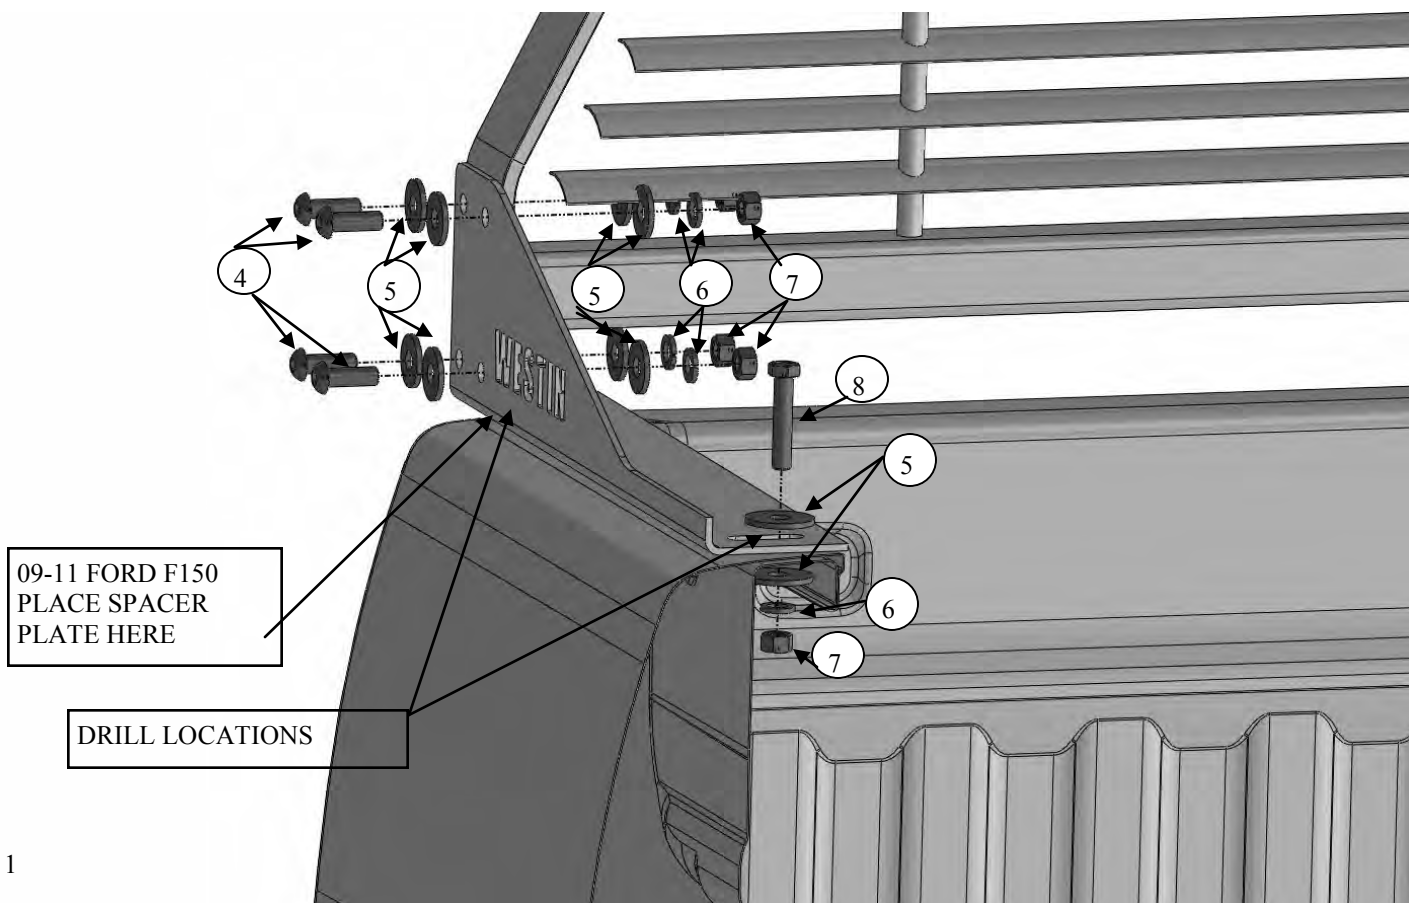

FIG 1
2. Assemble the drivers and passenger side mounting brackets to the headache rack using (8) M12 button head bolts, (16) M12 flat washers, (8) M12 lock washers, and (8) M12 hex nuts. Do not fully tighten at this time. Fig 1
3. Take the assembled headache rack and place it on the bed rails and center the assembly. Mark the four drill locations then remove the rack and brackets. Fig 1
5. Install the driver side mounting bracket starting with the forward most mounting location using the options detailed in Figs 1 and 2. Rotating the mounting bracket 90° allows access to the fasteners through the stake pocket. Repeat for passenger side bracket.